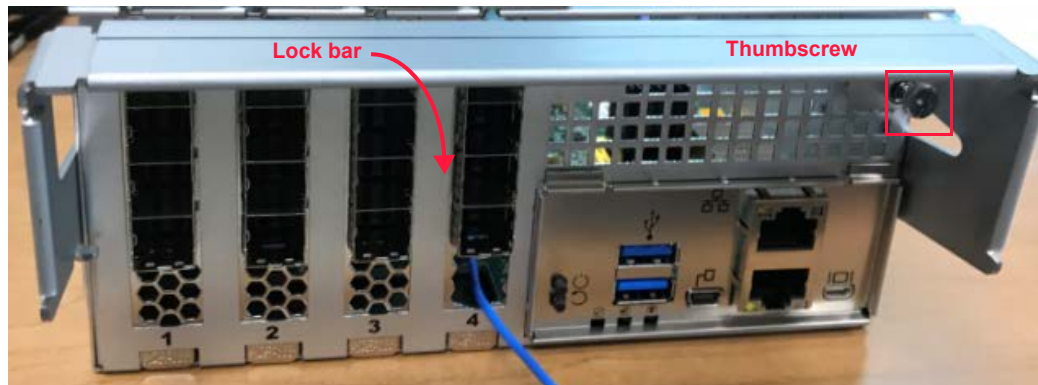

Figure 8.21 Server module thumbscrew and lock bar
5. Loosen the thumbscrew on the top right corner of the server module. The thumbscrew location is pictured in Figure 8.21.
6. Pull the lock bar downward to release the cam from the locked position. The lock bar motion is demonstrated in Figure 8.21.
9. Ensure the server module lock bar is in the downward, unlocked position. Refer to Figure 8.21 on page 111 to view the lock bar operation.
12. Push the lock bar upward to cam the server module in place. Lock bar operation is pictured in Figure 8.21 on page 111.
13. Tighten the thumbscrew to secure the module to the enclosure. The thumbscrew locations are pictured in Figure 8.21 on page 111.